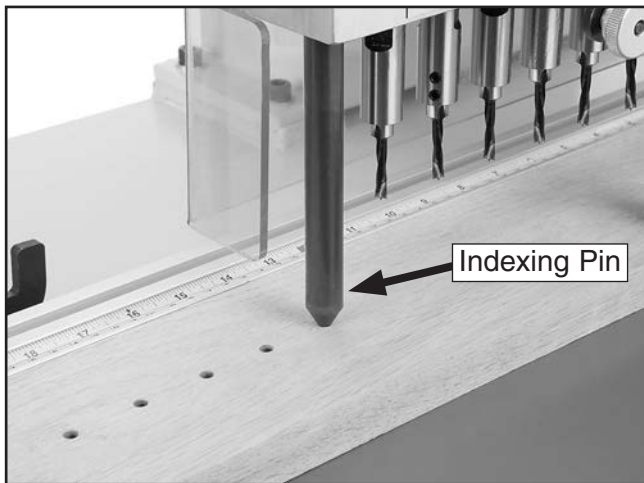

Figure 26. Using the indexing pin to position workpiece for additional drilling (boring head guard removed for photo clarity).
- If you need to drill more than 15 holes, push the indexing pin into the last previously drilled hole to position the workpiece, as shown in **Figure 26**.